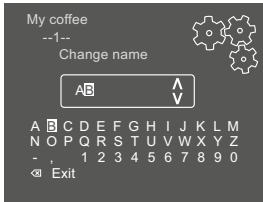

Fig. 19: Changing the name of a user profile
5. Use the arrow buttons to select individual characters and confirm each with "menu/ok" (see Fig. 19).